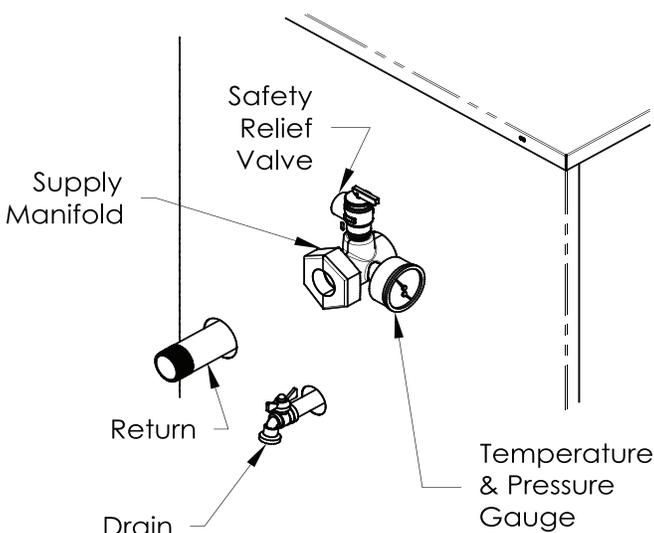

Figure 6-1: Standard Near Boiler Piping
- C. Install safety relief valve. See Figure 6-1 and 6-2. Safety relief valve must be installed with spindle in vertical position.